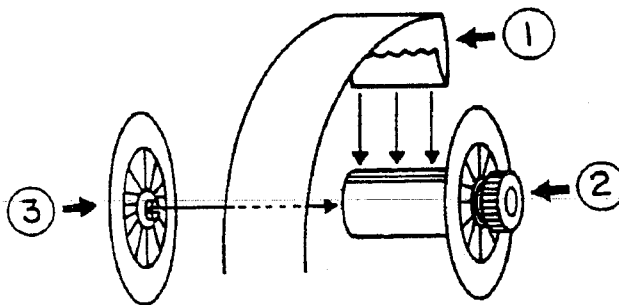

figure 2-3-5
- ⑨ Cut the receipt side paper.
- ⑩ Insert the journal side paper in the slit of the rewind spindle. Wind spindle 3 or 4 times.
Push disk ③ onto the spindle as shown in figure 2-3-5